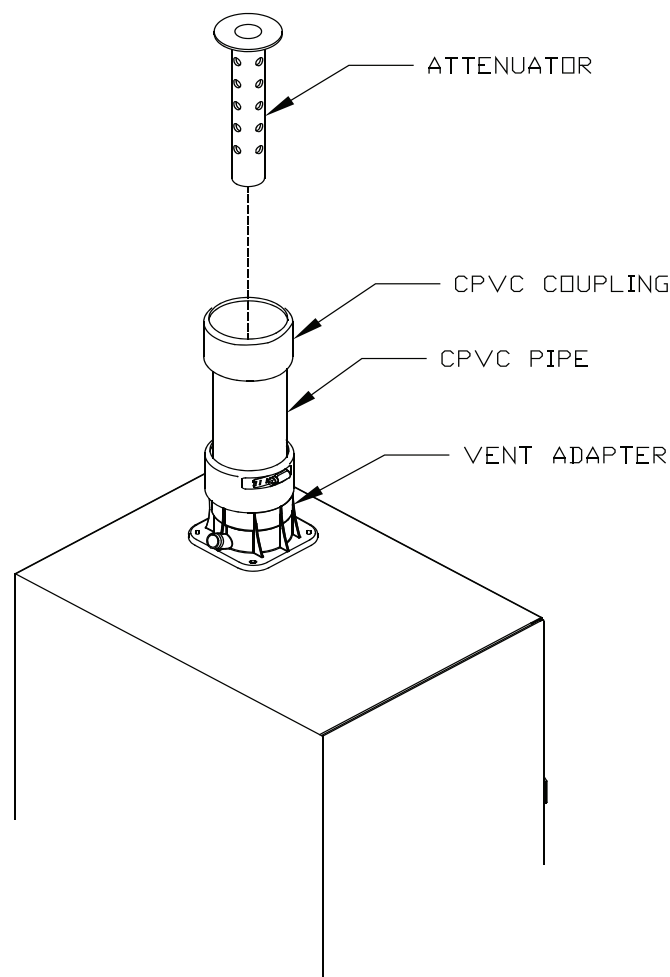

Figure 7.1A: Installation of Vent Side Attenuator
4. Vent Side Noise Attenuator - This boiler comes with a vent side noise attenuator. If equivalent vent length is less than 70 equivalent ft., install noise attenuator as described below. Attenuator is not required on size 135 at altitudes above 2000ft. Refer to Figure 7.1A.